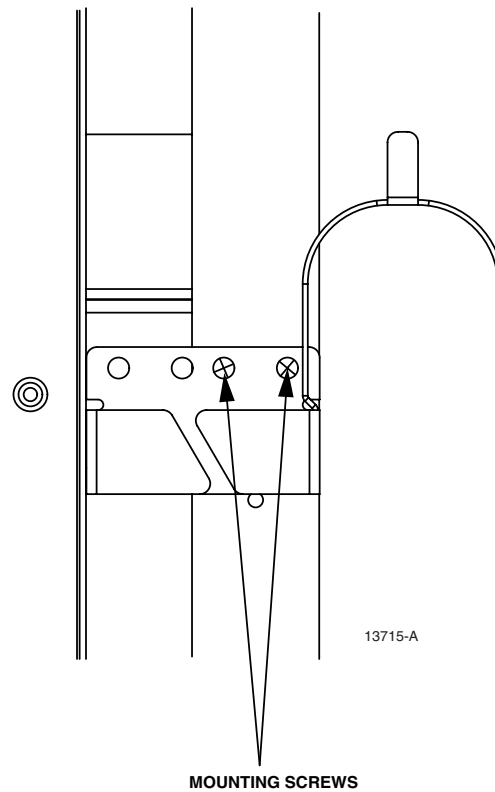

Figure 10. Vertical Cable Guide Mounting Screws
1. Remove the two mounting screws that secure the vertical cable guide to the bay (Figure 10). Set the screws aside.